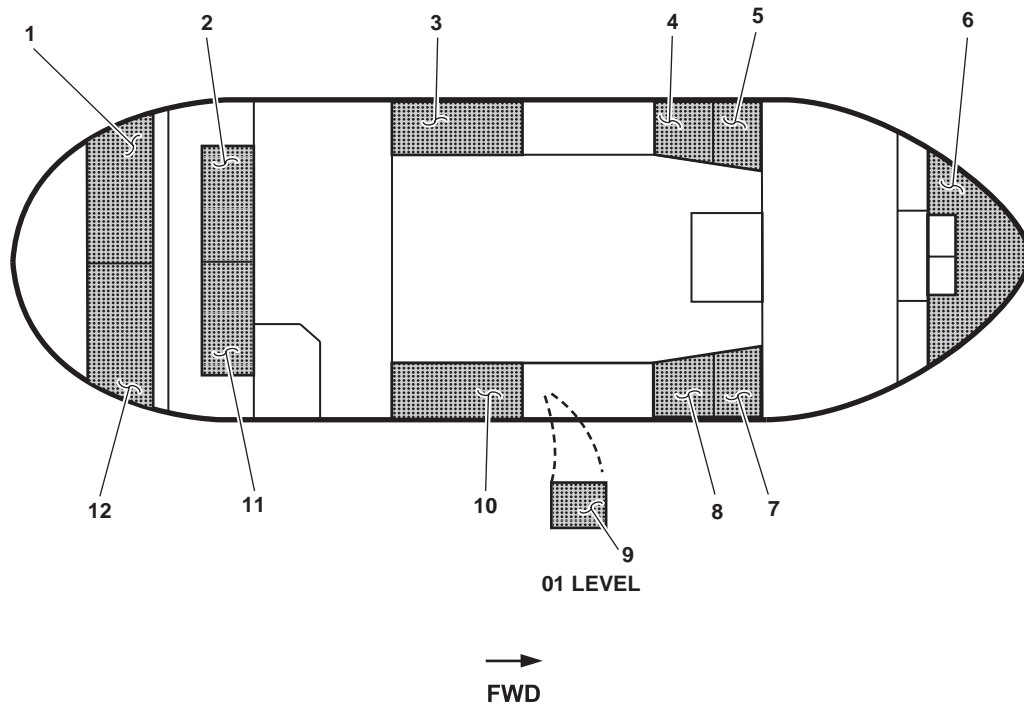

Figure 1. Above Tank Top Level Fluid Tank Locations
Refer to figures 1 and 2 for fluid tank locations.
Tables 1 and 2 describe the various fluid tanks incorporated into the Large Tug's (LT) hull structure. The Tank column contains the name of the tank. The Item Number column directs the crewmember to the appropriate tank location as shown in figures 1 and 2. The capacity column list each tank's capacity by volume.